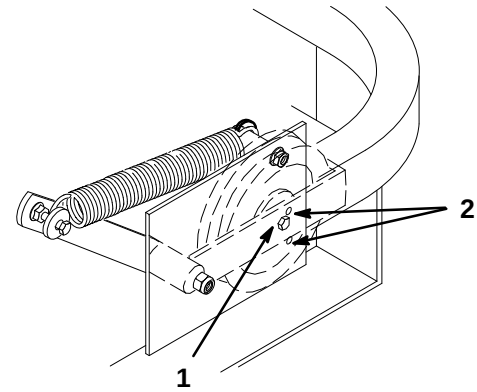

Figure 8
3. Check belt tension. The center bolt of spring loaded idler must be between the two alignment holes in left support plate (Fig 8).
Note: Check position of center bolt in Low Height of Cut. The center bolt must be at or below the top alignment hole. Check position of center bolt in a High Height of Cut. The center bolt must be at or above the lower adjustment hole (Fig 8).
5. Check belt tension again. The center bolt of spring loaded idler must be between the two alignment holes in left support plate (Fig 8). Adjust, if necessary, and tighten all hardware securely.